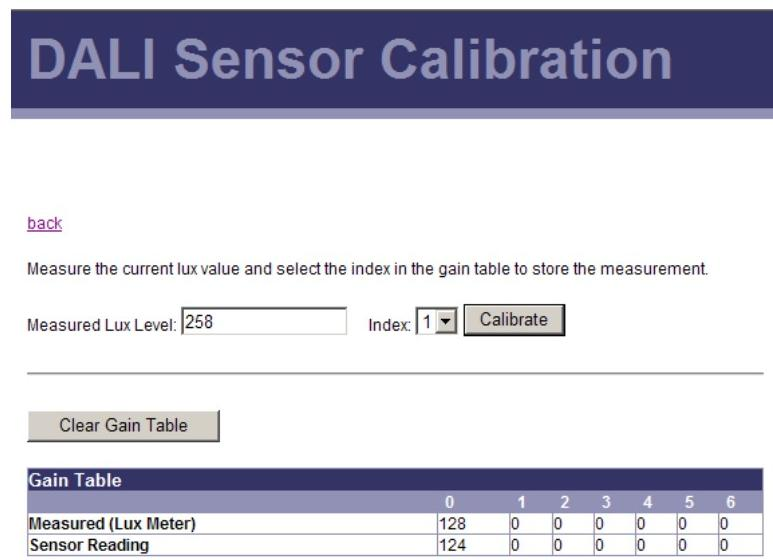

Figure 29: DALI Installation Web Interface: Sensor Calibration
1. Go to the DALI Installation page and press the **Calibrate** button next to the sensor that is to be calibrated. The DALI sensor calibration page is shown in Figure 29.